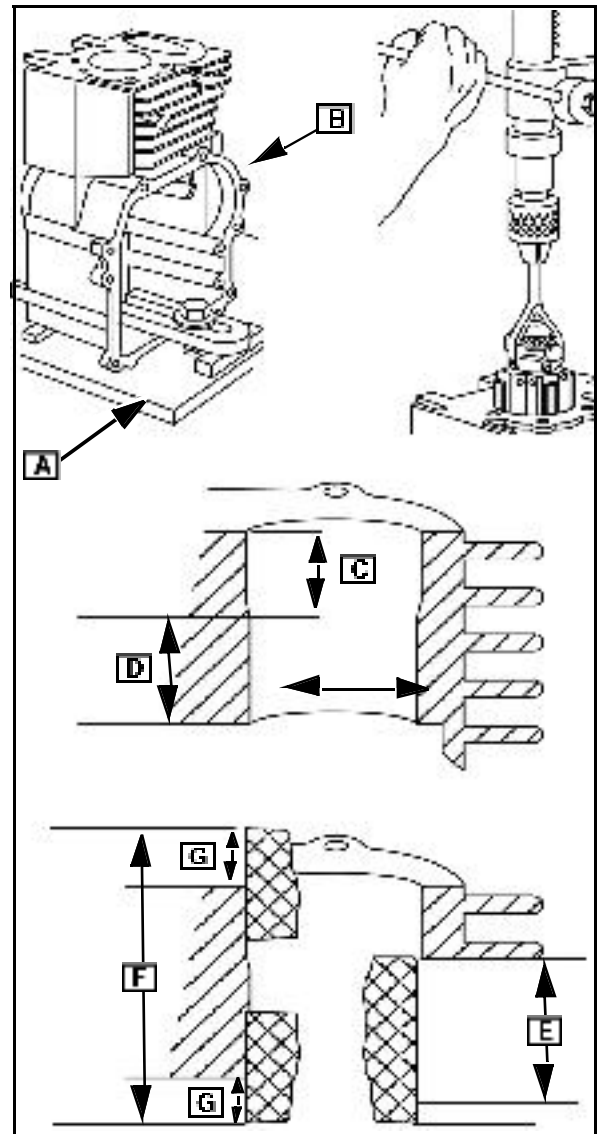

Fig. 47
- Oil the surface of the drill press table liberally. Set (do not anchor) the honing fixture/plate (A) and cylinder on drill press table. ([B] Fig. 47).
travel area, (D) use this area to guide hone to straighten cylinder bore, Fig. 47.
10. Start the drill and, as the hone spins, move it up and down limiting the travel to the bottom of the cylinder ([E] Fig. 47).
11. As the bottom of the cylinder increases in diameter, gradually increase the length of the strokes until hone travels full length of bore and extends past the cylinder bore ends ([F] Fig. 47). Do not extend hone more than 3/4 in. to 1 in. (19.1 mm to 25.4 mm) at either end of cylinder bore ([G] Fig. 47).